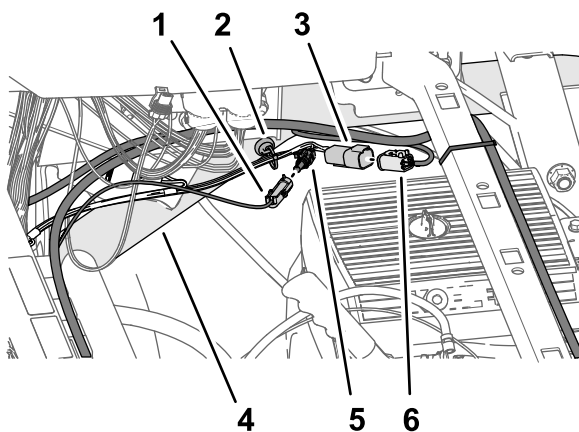

Figure 201
3. Connect the 1 pin connector of the battery harness labeled *****IMPORTANT*** ONLY CONNECT THIS WIRE TO SWITCHED 12V POWER SOURCE** into the 1-socket connector of the 66 cm (26 inch) kit wire-harness branch (Figure 201) labeled (SW'D PWR FOR GEN 2 TOPCON).
4. Connect the 4-pin connector of the 66 cm (26 inch) kit wire-harness branch labeled ASC 10 PWR & CAN FROM X30 into the 4-socket connector of the data-harness branch labeled CAN 2/ASC10 BUS (Figure 201).